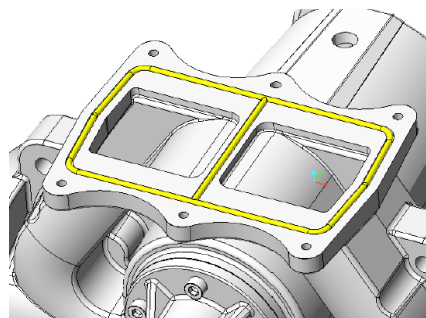

Figure 18
2. Check quality of seal (Part# 80-70130 O-Ring Buna Bypass Chamber Seal) and replace if necessary, Figure 18.